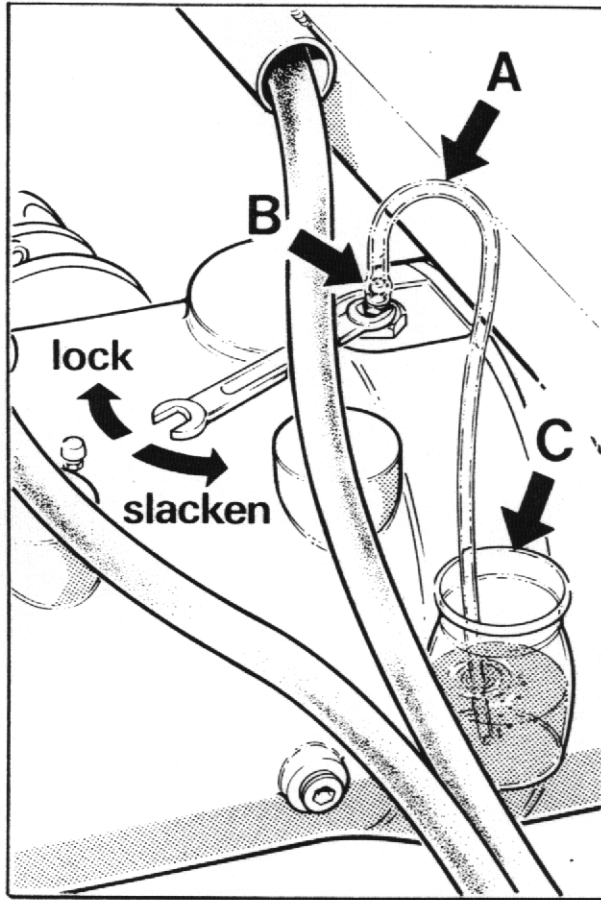

FIG. 8
3. Attach bleeder tube (A) (See fig. 8) to one of the bleed screws (B) on front axle and immerse other end in a small quantity of brake fluid contained in a glass jar (C). Slacken bleed screw and operate brake pedal up and down to its full stroke, until fluid pumped into the jar contains no air bubbles. Hold down pedal and close bleed screw. Remove bleeder tube and release pedal.